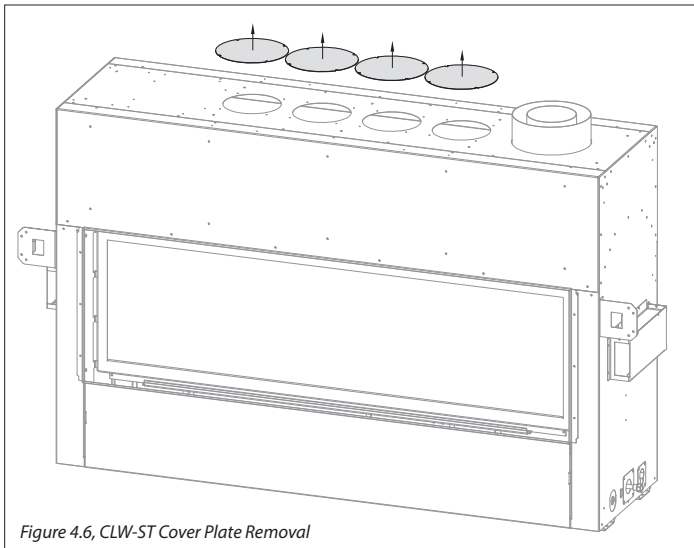

Figure 4.6, CLW-ST Cover Plate Removal
CLW-ST: Remove (4) cover plates on top of the appliance (4 screws each). See Figure 4.6.